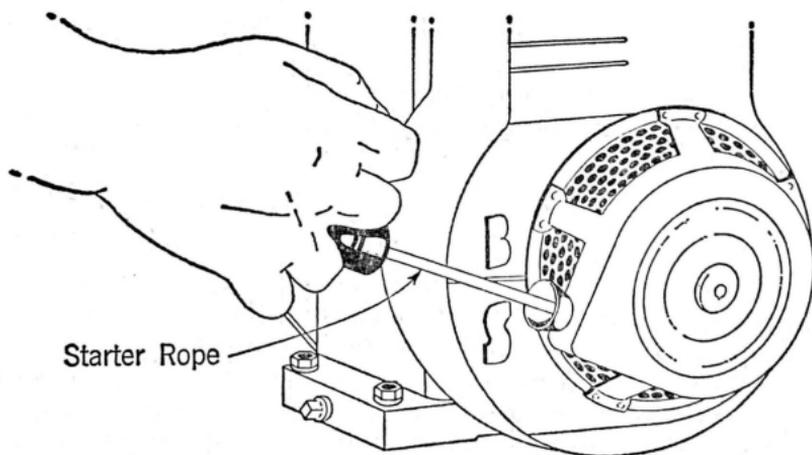

Fig. 4
- (6) Pull the rope on the rewind starter slowly until the starter clutch engages, then pull until the resistance of compression is felt. Continue to pull slowly about 2 or 3 inches until compression ceases. Allow the starter rope to recoil and again pull out slowly until the starter clutch engages as illustrated in Fig. 4. Pull with a quick steady pull to start the engine. The engine will usually start on the first or second pull.